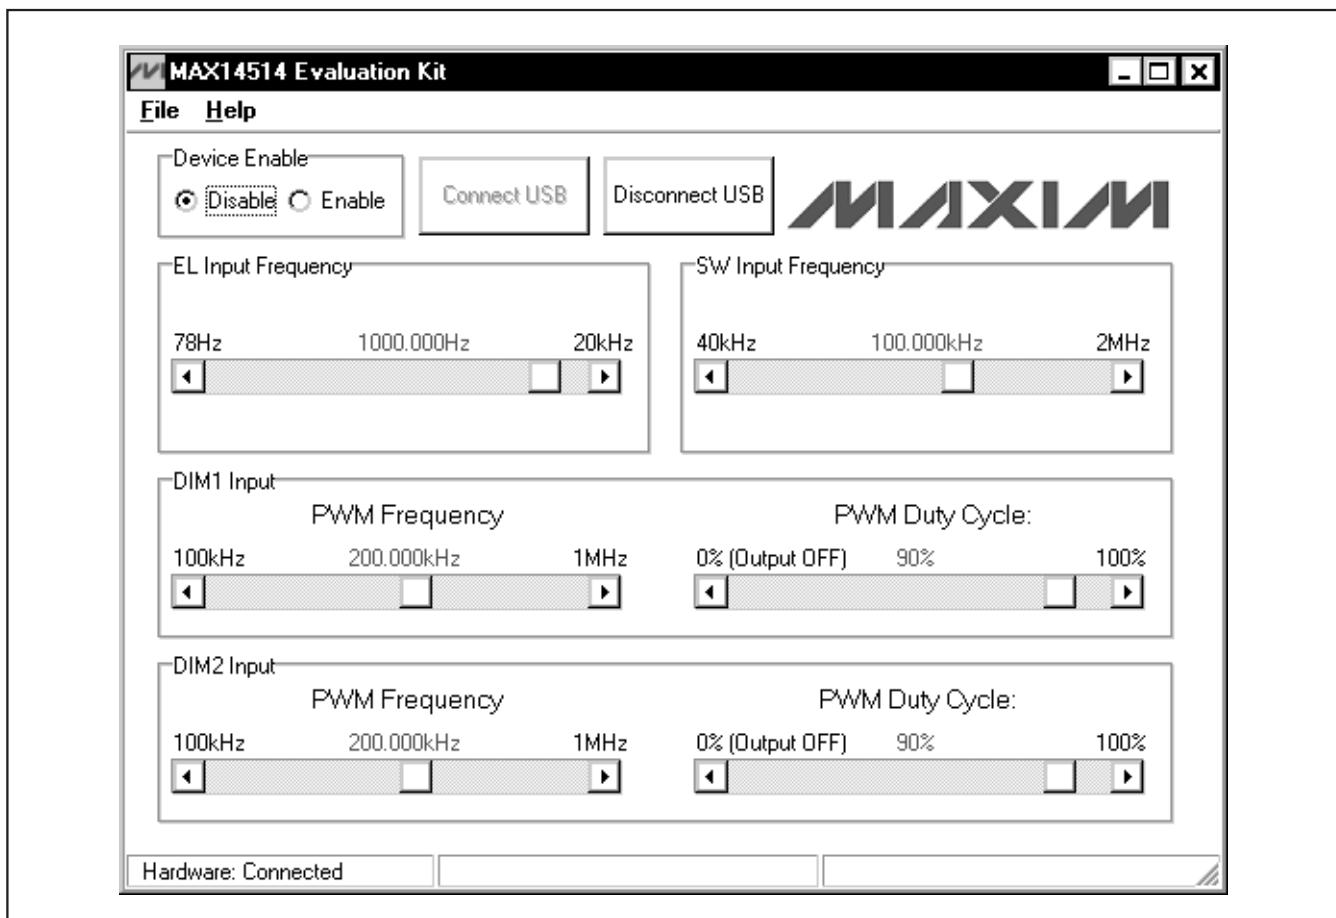

Figure 1. MAX14514 EV Kit Software Main Window
- 4) Connect an electroluminescent (EL) lamp between alligator clips V1 and COM.
- 8) Start the MAX14514 EV kit software by opening its icon in the **Start | Programs** menu. The EV kit software main window appears, as shown in Figure 1.
The main window of the evaluation software (Figure 1) lets a user set the EL voltage switching frequency, boost-converter switching frequency, and PWM signals